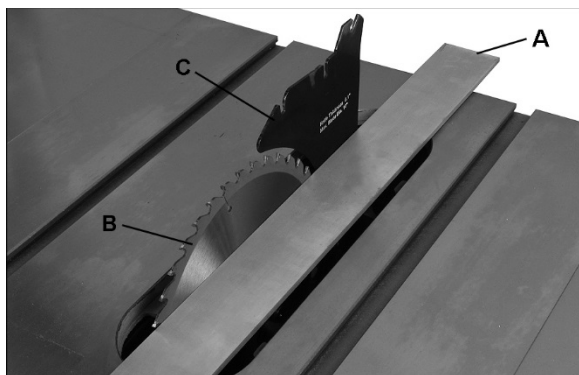

Figure 23
2. Place a straightedge (A, Figure 23) on the table so it rests against blade (B) and riving knife (C). Rotate blade so that top of blade tooth touches straightedge.